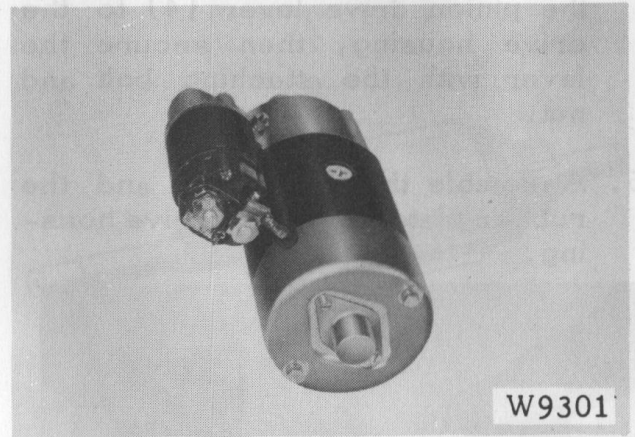

Fig. 6-32 Connecting Terminal
13. Connect the lead wire from the starter assembly to small terminal of the magnet switch (Fig. 6-32).